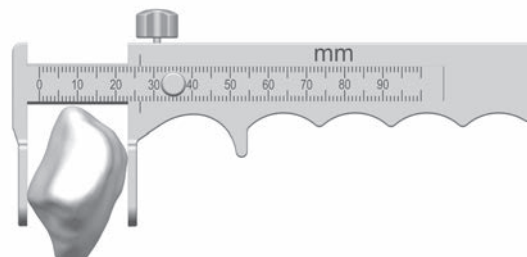

Fig. 58
- Place the leg in full extension, evert the patella to at least 90°. Stabilize the patella, using two inverted towel clips. Incise the soft tissue around the patella down to the insertion of the quadriceps and patellar tendons. Before making any bone cuts, determine the maximum thickness of the patella by using the Femur Caliper to measure the most prominent anterior-to-posterior dimension (Fig. 58).